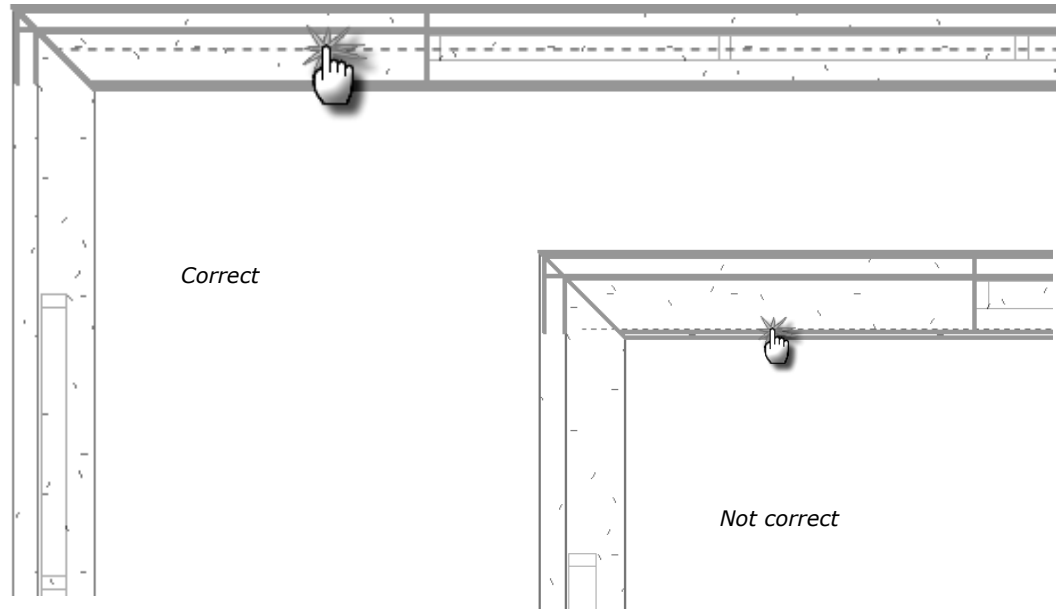

Figure 7-2.3 Roof Plan; four walls selected for sketching roof footprint
11. Select each of the exterior walls, favoring the exterior side when clicking the wall. Just before clicking, the dashed reference line should be at the exterior face of the wall core per the example shown in Figure 7-2.3.